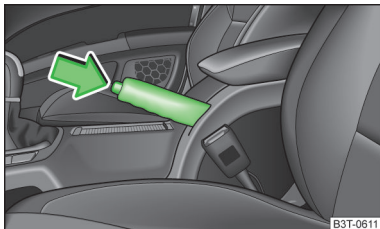

Fig. 136
- » Pull the handbrake lever up slightly **and at the same time** push in the locking button » Fig. 136.